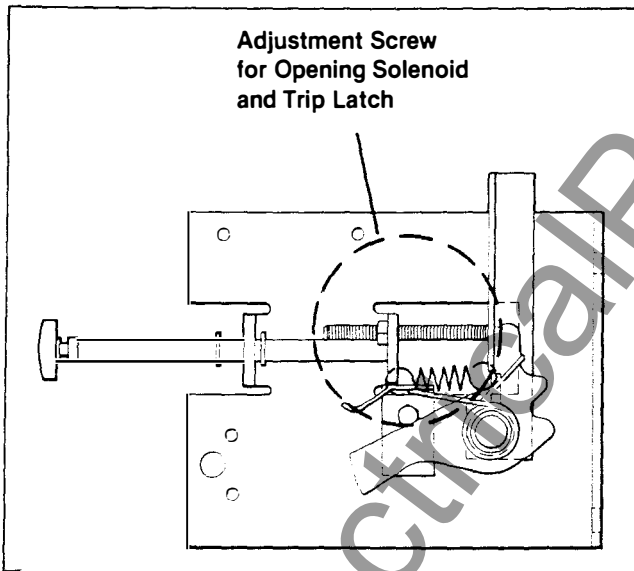

Figure 18. Location of Trip Latch Adjustment Screw
As a special feature the breaker can be fitted with a type Q-10 auxiliary switch with (10) stages. Each stage can be adjusted to be an 52a contact or 52b contact. Refer to figure 18 for features of this switch.
(See Figure 18)
Apply steady pressure to the armature of the opening solenoid 54.1, (Figure 6). The trip latch should release the opening spring before the limit position of the armature is reached. The armature should have a free travel of .39 to .6 inch (10 to 15mm) before picking up the load of the trip latch. The armature stroke can be reduced by screwing out the adjustment screw and increased by screwing in the same adjustment screw. Secure the final adjustment by means of the lock nut. See Figure 18 for location of adjustment screw.